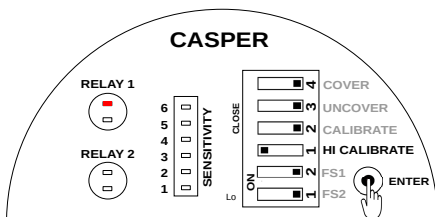

Figure 14: Setting HIGH Calibration
- Press and hold ENTER key, the STATUS LED for RELAY 1 will glow in RED color as shown in Figure 14.